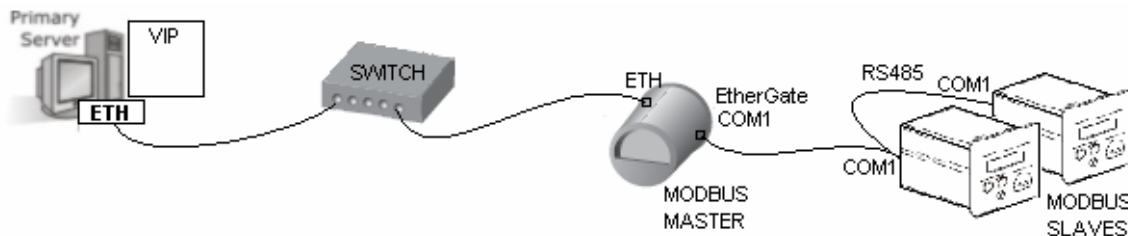
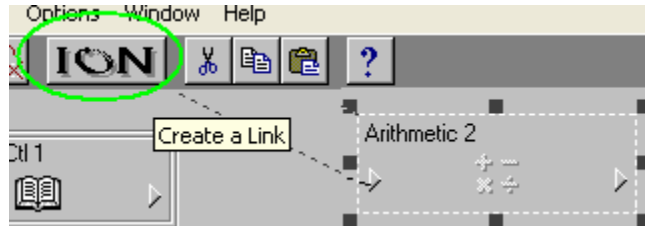

Figure 1.0: Modbus master/slave topology.
Figure 10.0: Designer - Linking any module (Arithmetic) to an existing meter
1. The Modbus master in figure 1.0 is connected to the ION Enterprise system via Ethernet. The Ethernet port does not require a protocol to be set. It will accept any acceptable protocol. The Modbus master device should appear in the Management Console as an Ethernet meter in order to access it. Once the meter is added, information from the meter can be pulled via the 'ION' button rather than any modbus module within Designer. See Figure 10.0.